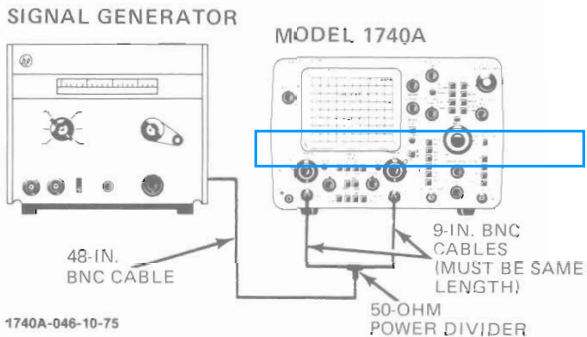

Figure 5-2. CMRR Test Setup
- a. Connect equipment as shown in figure 5-2.